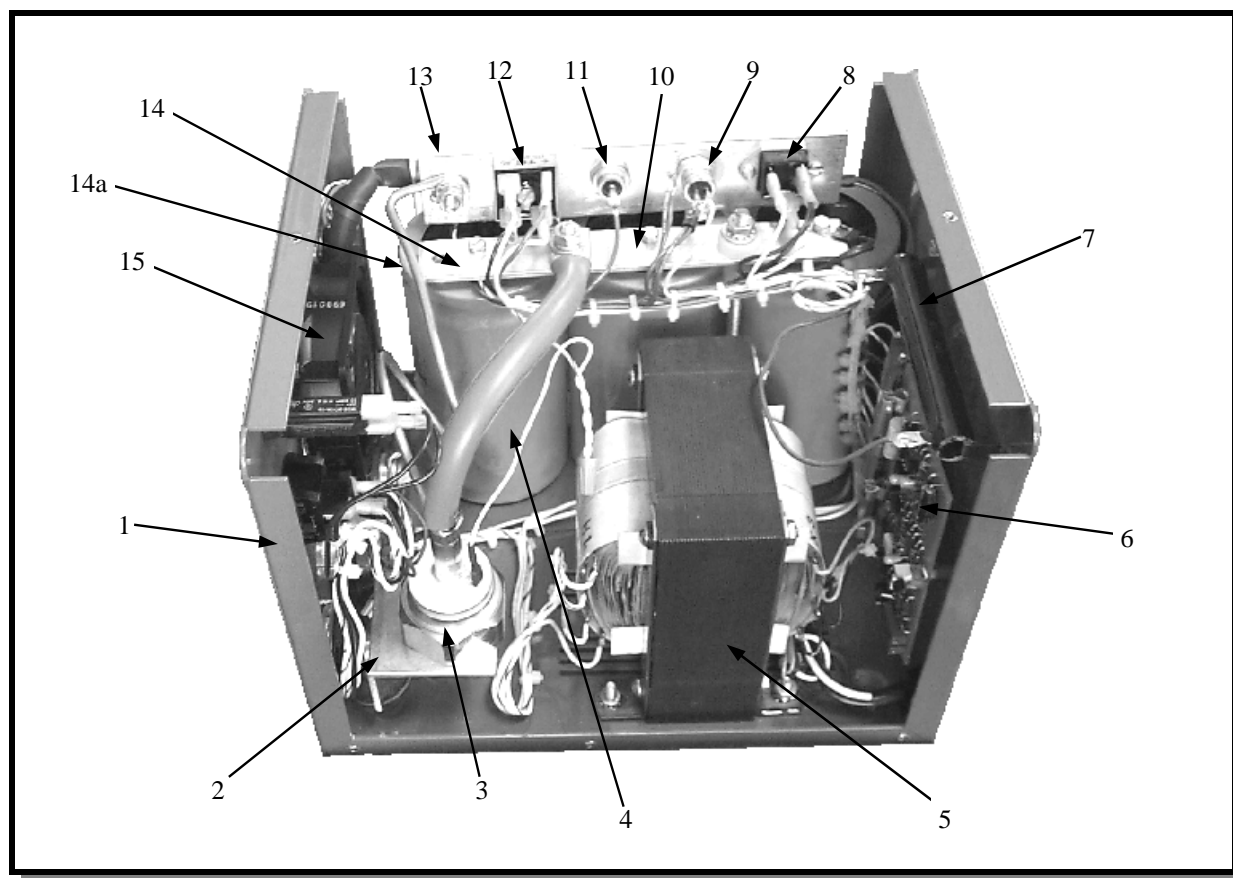

Figure 16 Parts List
16.0 ASSEMBLY CD-212P CONTROLLER (see Figure 16,17, & 18)